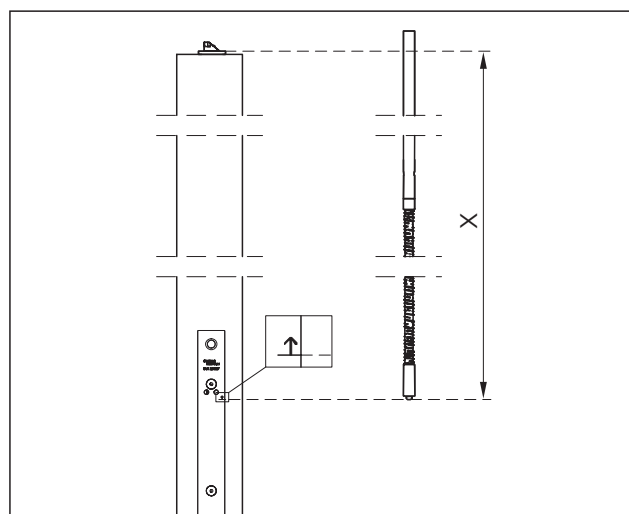

Fig. 42 Determine the length of the upper espagnolette bolt
3. Determine and mark the length of the upper espagnolette bolt (Fig. 42).